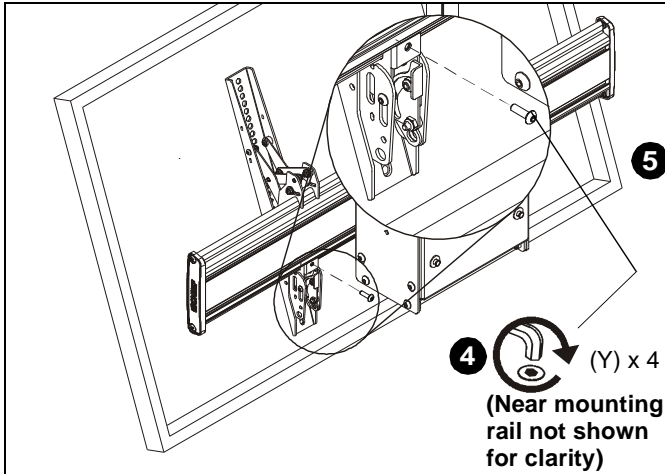

Figure 9
4. Fasten bracket against ceiling mount using one 10-24 x 5/8" button head cap screw (Y). (See Figure 9)